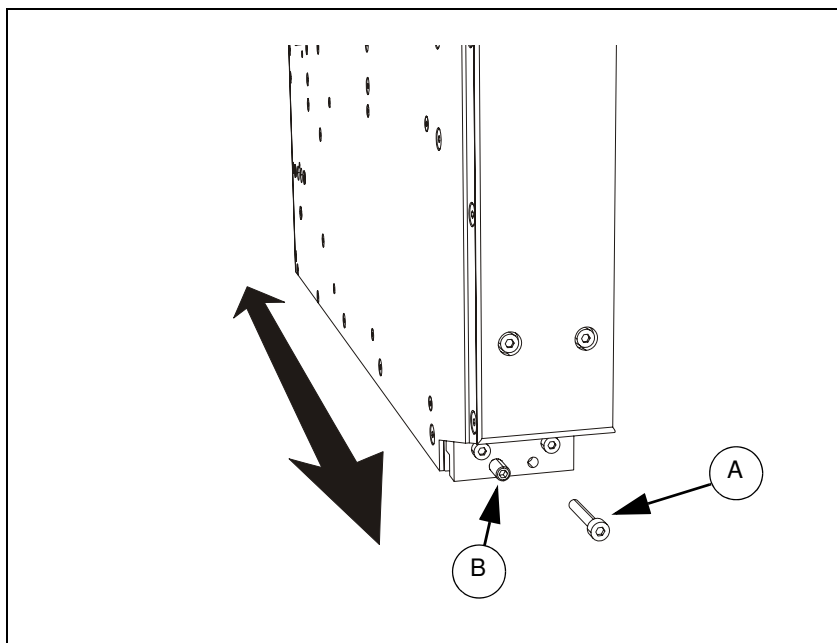

Figure 9-10. Adjust camera Y-position.
3. Loosen screw located in the front of the camera box ('A' in Figure 9-10).
4. Adjust the Y position of the camera with screw (B). By turning the screw clock-wise the camera can be moved towards the front of the machine (on the monitor it looks as if the camera is moving downwards).